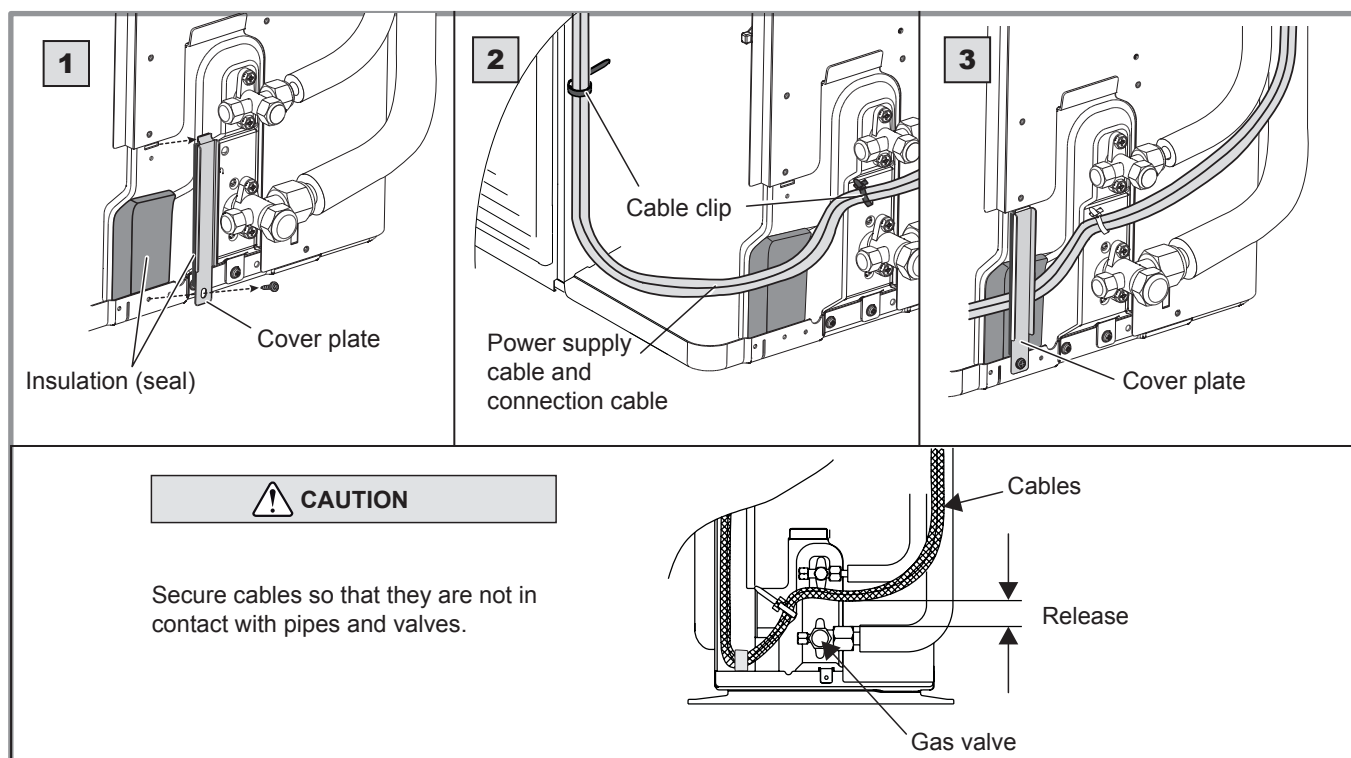

figure 36 - Finalisation of connection to single phase outdoor unit
- Use the mounting plate to hold the cables against the insulating plate (figure 36).